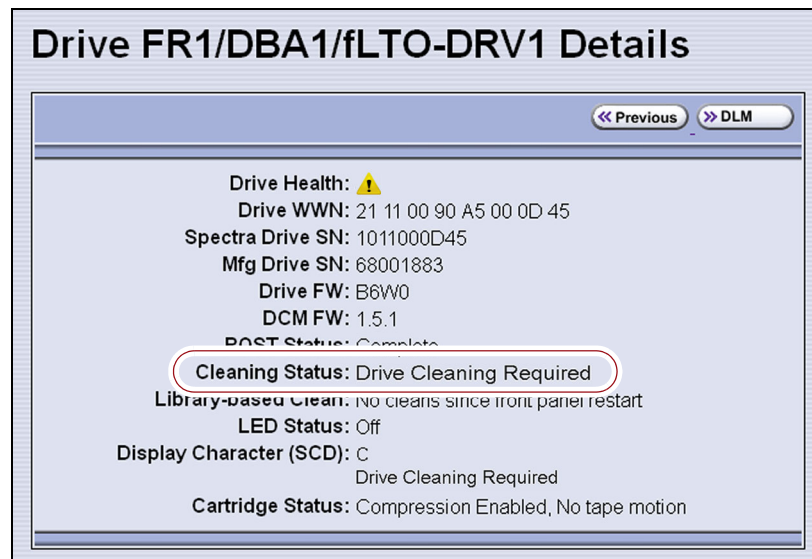

Figure 305 The Cleaning Status indicates that cleaning is required.
Overview Whenever a tape is loaded or unloaded, the read/write heads are physically cleaned by a brush located within the drive. However, after reading and writing a large amount of data (the exact amount varies by drive type and generation) or if read or write errors occur, the drive requests to be cleaned with a cleaning cartridge. The request is made by sending a Tape Alert message to the host, and displaying a **C** on the SCD for an LTO drive or **CLEAN*** on the MCD for a TS11xx technology drive. The notification is also posted to the library's Drive Details screen (Figure 305 on page 474) and the DLM drive health icon for the drive changes to yellow (see Using the Drive Health Icons on page 339 for additional information).
- The Drive Details screen indicates that the drive needs cleaning or displays a **C** on the SCD for an LTO drive or **CLEAN*** on the MCD for a TS11xx technology drive (see Figure 305 on page 474).